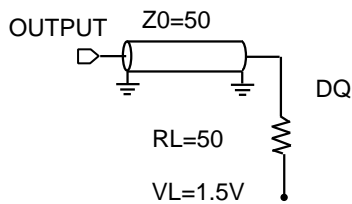
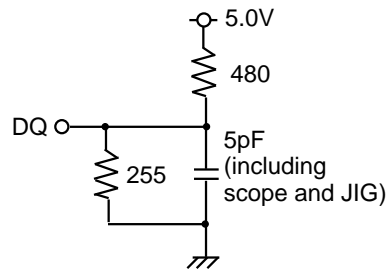

Fig.1 Output load
Fig.2 Output load for  $t_{en}$ ,  $t_{dis}$
Output loads ..... Fig.1, Fig.2
4. Transition is measured  $\pm 500\text{mV}$  from steady state voltage with specified loading in Figure 2.